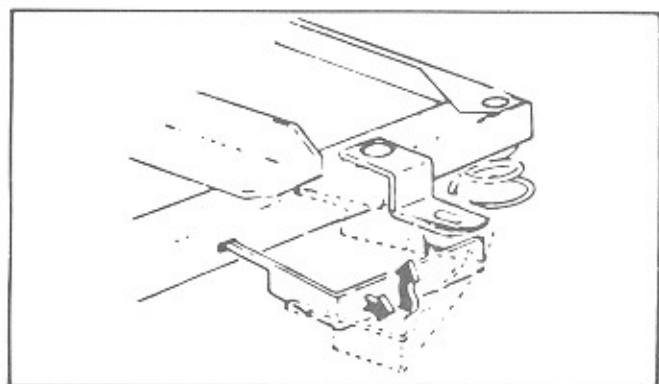

Figure 2-2. Record Changer Tie-Down Brackets
2. Rotate the record changer tie-down brackets away from the mechanism support frame as shown in Figure 2-2. Lift up the brackets and remove them.